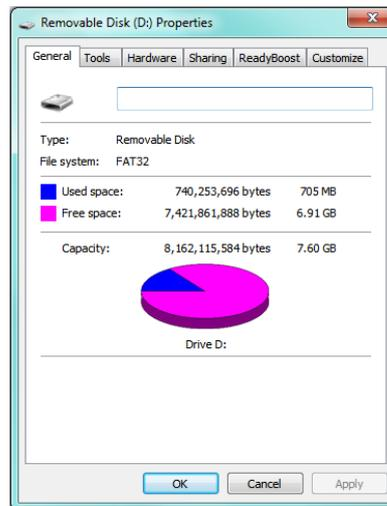

Figure 3 Properties of the USB Drive
4. When 'Properties' has been selected the window will be opened as shown in *Figure 3*.